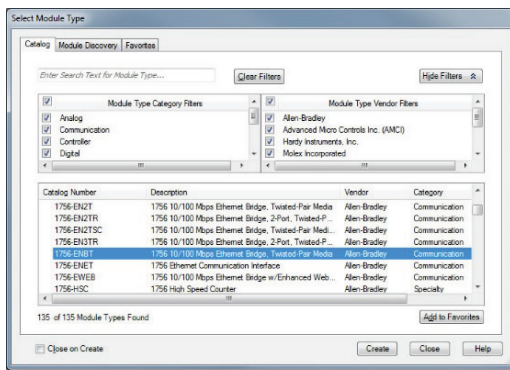

Figure 31: Adding a New Module
- 5) Select the “1756-ENBT”, and click “Create”. Refer to Figure 31.